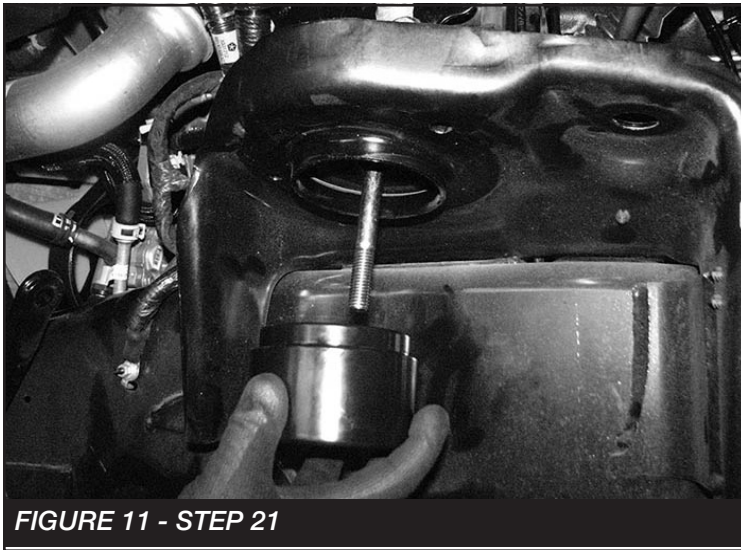

FIGURE 11 - STEP 21
21. Locate FT44356BK (Coil Retainer), FT44359 (Washer), 1/2"-13 X 4" Bolt, nut and washer. (Driver side) Remove the bolts attaching the ABS module to the spring perch and install the 1/2" bolt and FT44359. Install the FT44356BK (Retainer) and 1/2" washer and nut. Torque to 100 ft-lbs. **SEE FIGURE 11**